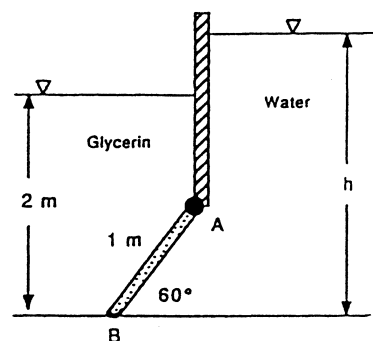

Fig. P2.61
**2.61** Gate AB in Fig. P2.61 is a homogeneous mass of 180 kg, 1.2 m wide into the paper, resting on smooth bottom B. All fluids are at 20°C. For what water depth  $h$  will the force at point B be zero?